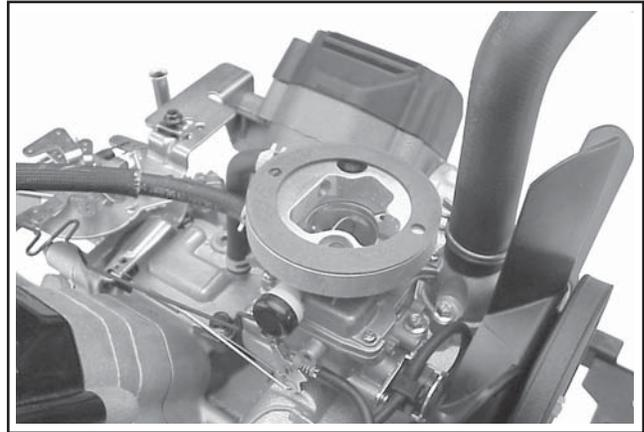

Figure 11-102. Installing Elbow Adapter Gasket.
1. Install a new elbow adapter gasket onto the carburetor adapter. See Figure 11-102.